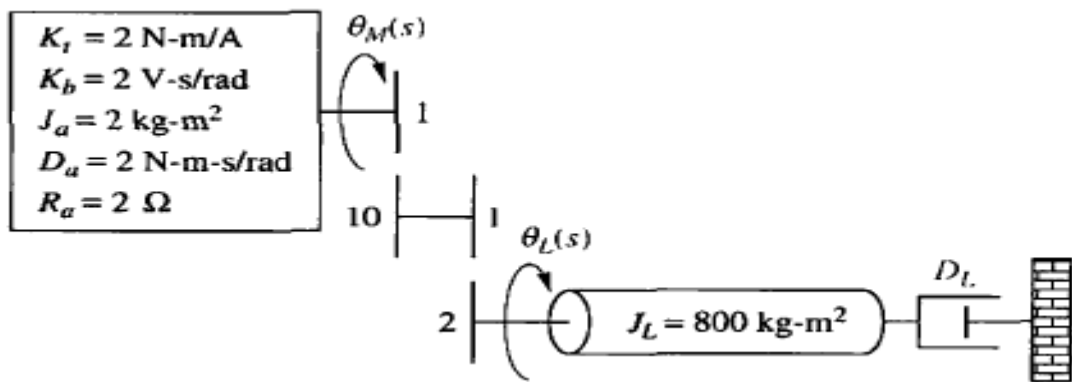
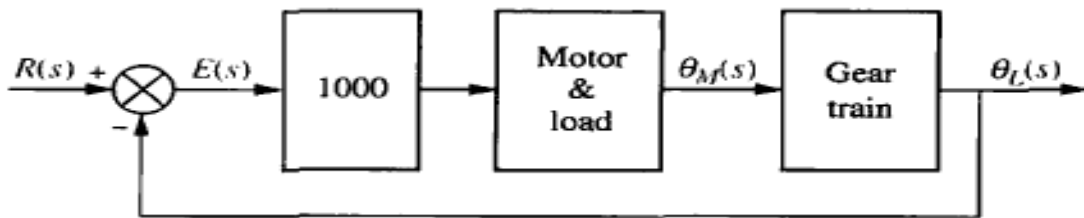

Figure 4
Figure 5
2C. The motor and load shown in Figure 4 are used as part of the unity feedback system shown in Figure 5 for controlling the position of an antenna. Find the value of the coefficient of viscous damping,  $D_L$ , that must be used in order to yield a closed-loop transient response having a 20% overshoot. 5
- 5A. Write, but do not solve, the equations of motion for the translational mechanical system shown in Figure 4